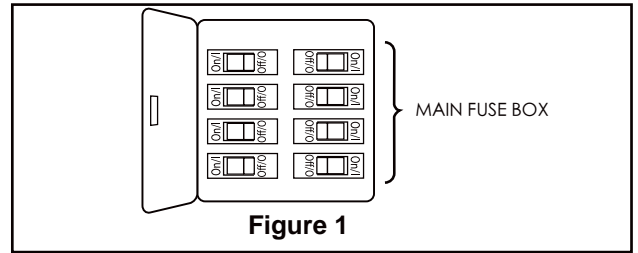

Figure 1
Your new ceiling fan will require a grounded electrical supply line of 120 volts AC, 60 HZ, 15 Amp Circuit. Electrical code requires use of a fan-rated outlet box to support the extra weight and motion associated with a ceiling fan. A fan-rated box will be labeled as such and typically supports up to a 70lb ceiling fan. Fan-Rated Outlet Boxes vary in ratings and design. Ensure the ratings of your ceiling fan outlet box meet the requirements for the ceiling fan being installed. Figure 1, Figure 2 and Figure 3 depicts different structural configurations that may be used for mounting the outlet box.
Low profile box (Figure 1)
1. Prior to assembly, set aside and save the hardware bags packaged with your fan. Remove the hanger ball by loosening the set screw in the hanger ball until the ball falls freely down the downrod. Remove the pin from the downrod, then remove the hanger ball. Retain the pin and hanger ball for reinstallation in Step 7. (Figure 1)
To avoid possible electrical shock, be sure electricity is turned off at the main fuse box before hanging. (Figure 1)
1. To set the code on receiver unit, slide dip switches to the same positions as set on the remote. (Figure 1)